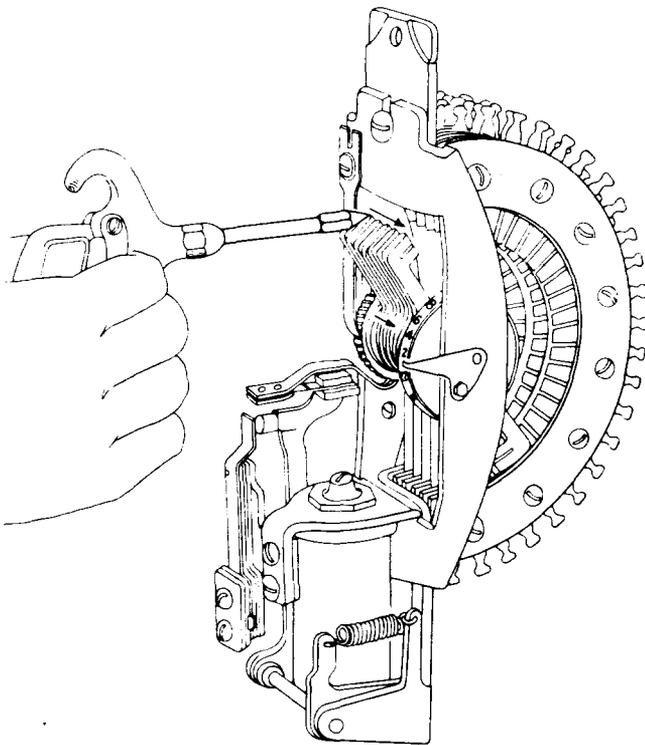

Fig. 5—206-, 209-, and Similar-Type Selectors
5.33 To clean rotary selectors, it is desirable to have the rotor brushes in motion. Clean by moving the air nozzle slowly across the top of the selector bank in the manner suggested by Fig. 5, exercising care that the brushes do not strike the nozzle. Then with the nozzle directed at the rotor brush shaft, move it slowly across the length of the shaft. The selector, if in motion, may then be stopped.